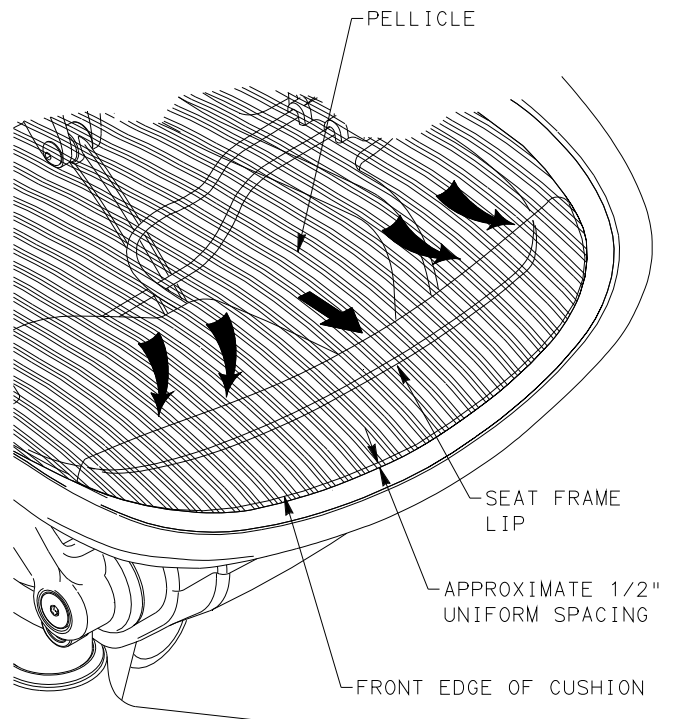

FIGURE 3
4. INSERT FINGERS BETWEEN CUSHION AND PELLICLE, AND WORK FRONT EDGE OF CUSHION FORWARD TO MINIMIZE "BUNCHING" OF CUSHION. SEE FIGURE 3